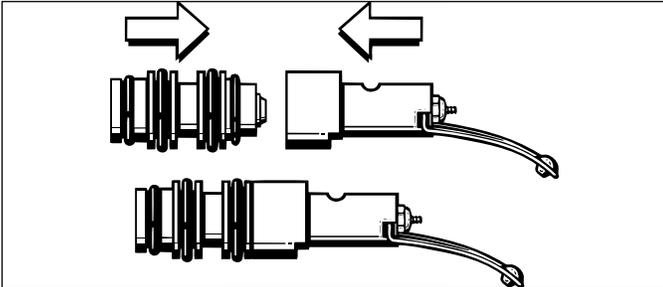

Figure 24
1.3.31 Position the crown housing behind the poppet housing, with the crown facing inward toward the LP seat, and carefully insert the crown housing into the poppet housing (see Fig. 24). Press firmly together until both parts are flush with each other.